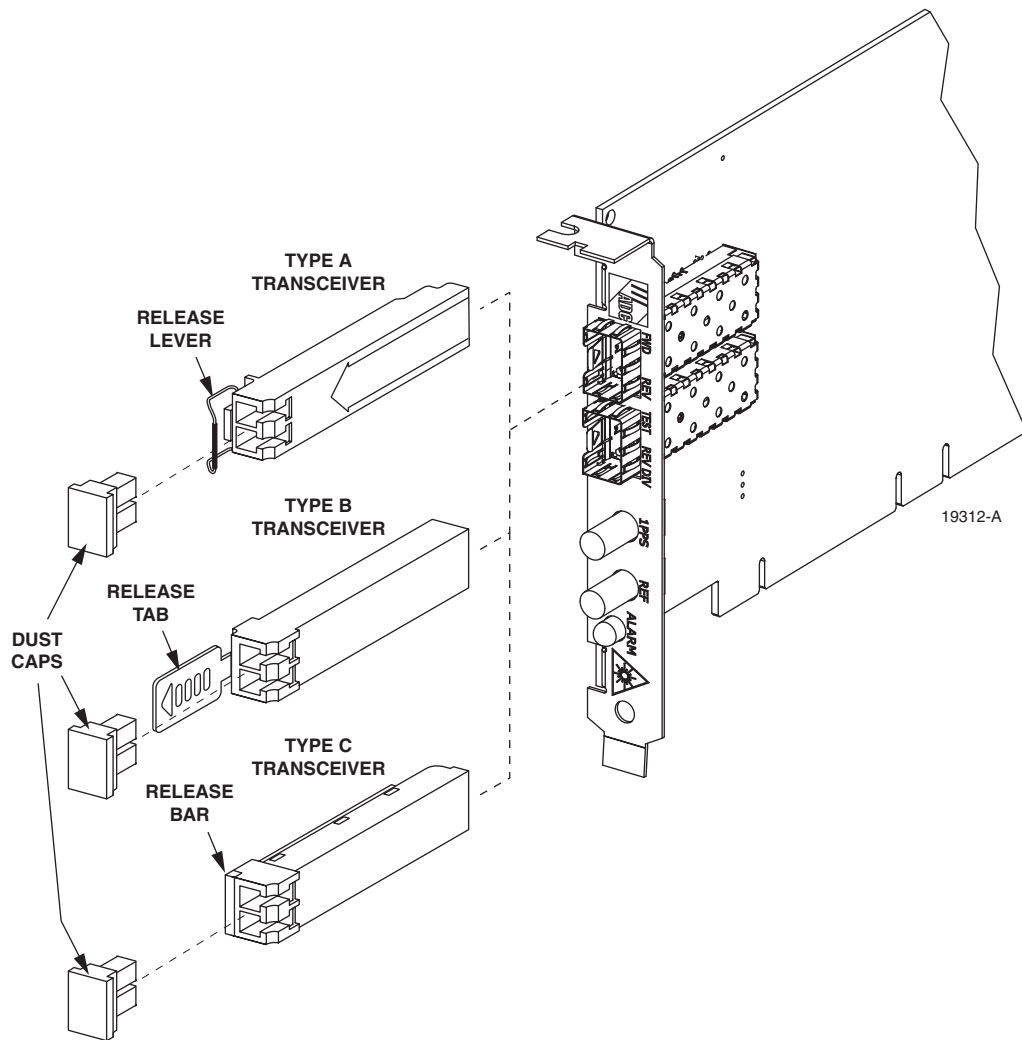

Figure 5. Optical Transceiver Installation
2. Locate the appropriate transceiver socket on the front of the SDR card as shown in Figure 5 and remove the cover from the socket.
- ▶ **Note:** A variety of optical transceivers are available, all provide the same functionality. On the type A optical transceiver, the release lever (see Figure 5) must be closed for installation.
- 3. Select optical transceivers shown in Figure 5.
- 4. Remove transceiver from anti-static packaging and orient for installation. See Figure 5.